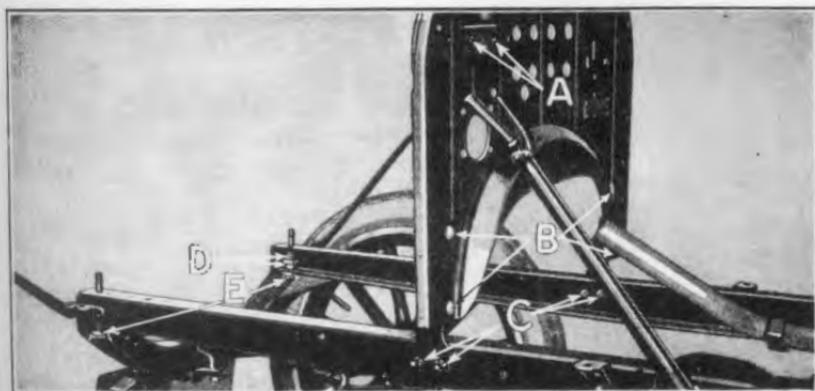

Fig. 48
- 47 **Remove terminal block** by running out the two terminal block wood screws (See "A" Fig. 48).